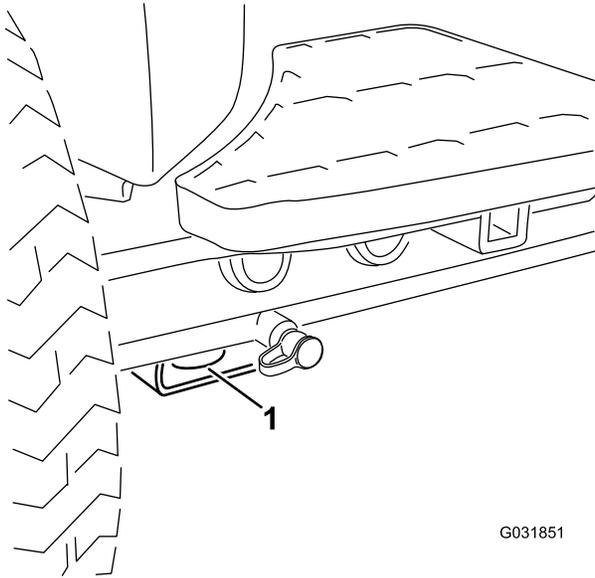

Figure 41
- Front—the hole in the rectangular pad, under the axle tube, inside each front tire (Figure 41)